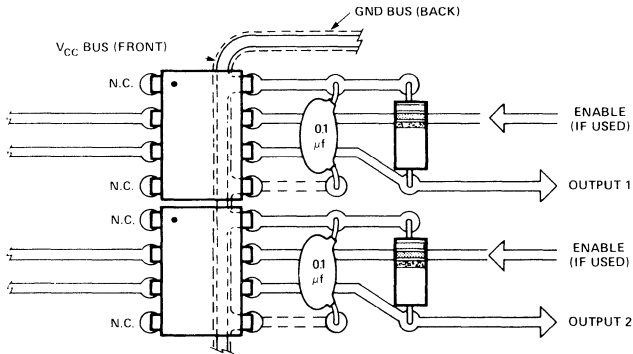

Figure 15. Recommended Printed Circuit Board Layout.
1. Bypassing of the power supply line is required, with a $0.1\ \mu\text{F}$ ceramic disc capacitor adjacent to each optocoupler as illustrated in Figure 15. The power supply bus for the optocoupler(s) should be separate from the bus for any active loads.